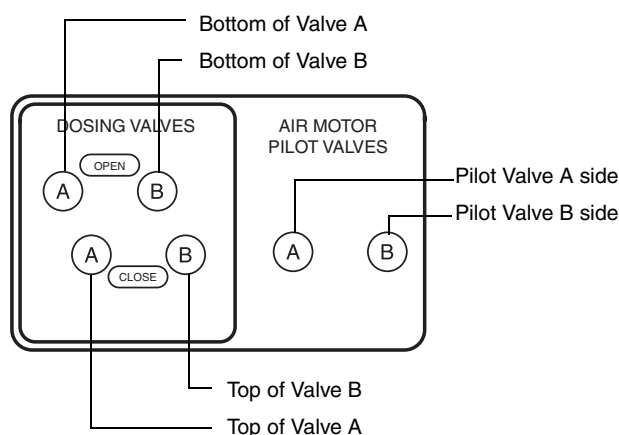

FIG. 4: Control Box - bottom (solenoid ports)
13. Reconnect fluid lines (provided by installer) between pumps and metering valves (H).
14. Reconnect or cut air line tubing to length needed to connect between metering valves (H) and solenoid outlets. FIG. 4.